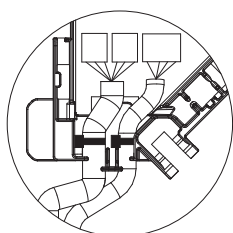

Fig. 5-16
- Make sure that the band securing the i-See sensor and signal receiver junction wires is positioned inside the connector box. (Fig. 5-16)